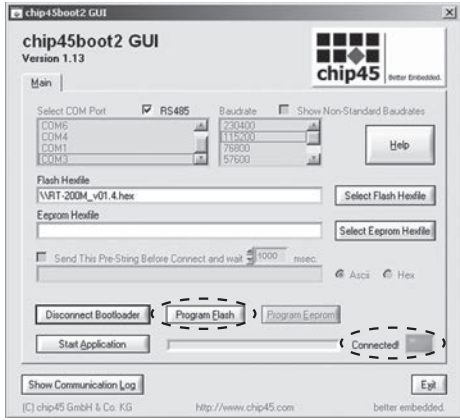

Figure 28.
10. Verify that the program is connected to the controller — the message “Connected” and a green indicator should appear (see Fig. 28);